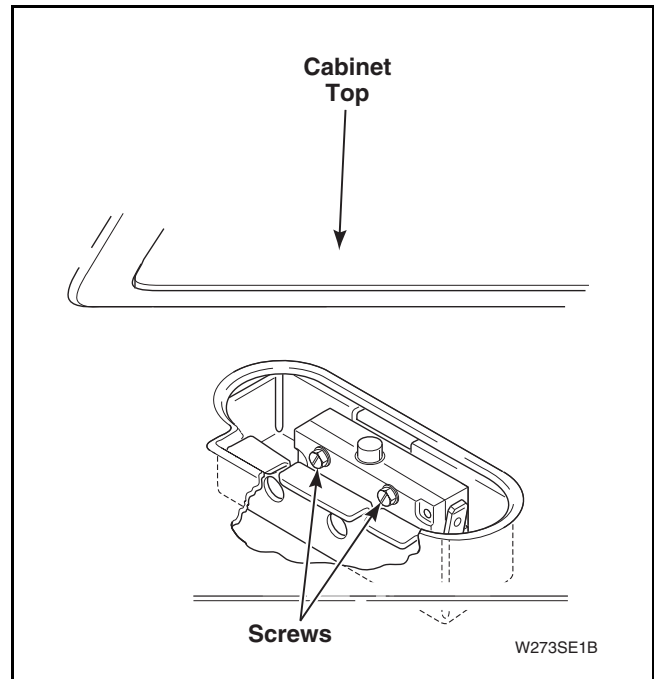

Figure 29
- e. Use an open-end wrench and remove screws holding switch to switch holder. Refer to *Figure 29*.
- i. Place switch assembly into switch holder. Refer to *Figure 29*.